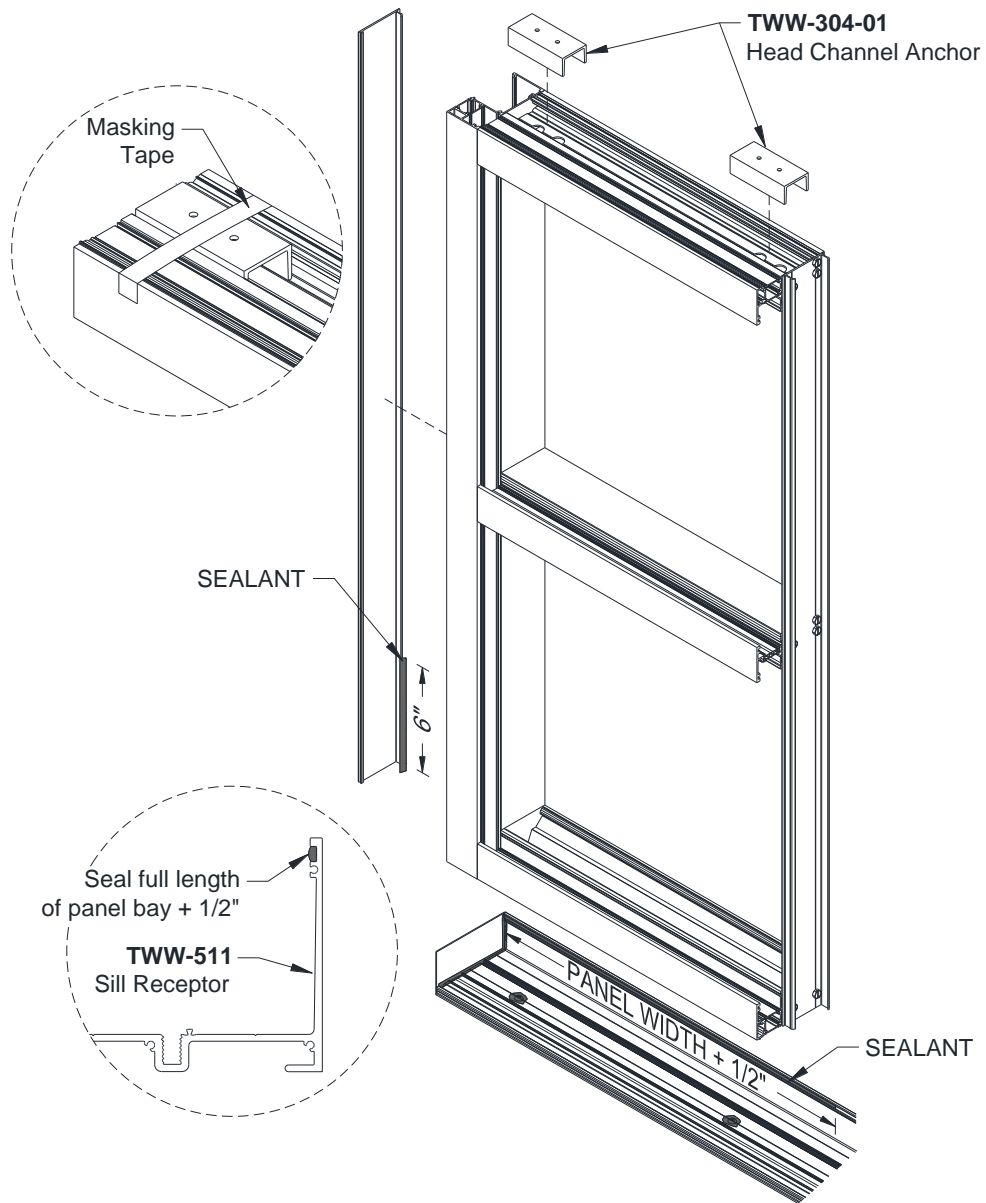

Figure 74: Panel Installation, First Panel
- 20.1 For every panel to be installed, temporarily tape the **TWW-304-01** Head Channel Anchors to the Head, aligning the access holes in the anchor with the holes in the head member, as shown in *Figure 74*.
- 20.3 Just prior to placing the first panel, apply Sealant the full width of the panel bay plus 1/2" in the top of the Sill Receptor. Reference *Figure 74* for location.